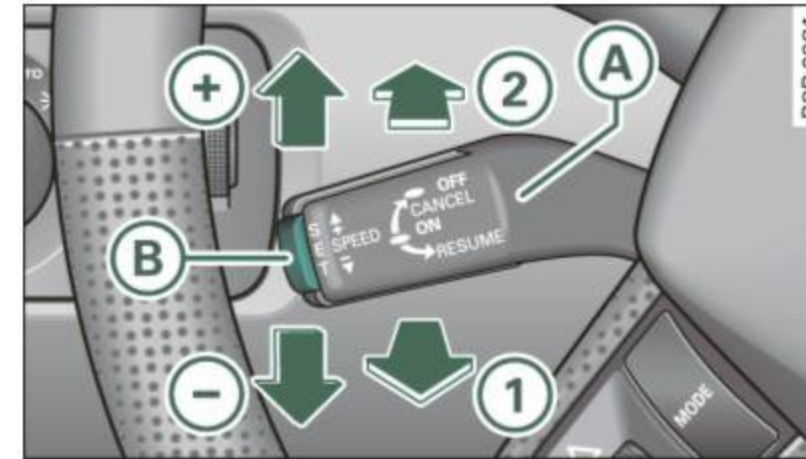

Fig. 135 Cruise control switches
- Pull lever **A** towards the steering wheel **1** ⇒ fig. 135 to switch the system on.
- Lift lever **A** toward **+** ⇒ fig. 135.
- Lower lever **(A)** toward **(-)** ⇒ *page 139, fig. 135.*
By lightly tapping the lever **(A)** toward **(+)** ⇒ *page 139, fig. 135,* you can increase vehicle speed by approximately 1 mph (2 km/h).
By lightly tapping the lever **(A)** toward **(-)** ⇒ *page 139, fig. 135,* you can decrease vehicle speed by approximately 1 mph (2 km/h). ■
- moving the lever **(A)** up in direction **(2)** (not engaging) ⇒ *page 139, fig. 135.*
If no vehicle speed was stored when you switched off the system temporarily, you must reset a new vehicle speed: Accelerate to the desired speed and press button **(1)** (SET) ⇒ *page 139, fig. 135.*
- Push lever **(A)** towards the instrument panel **(2)** until it engages ⇒ *page 139, fig. 135.*